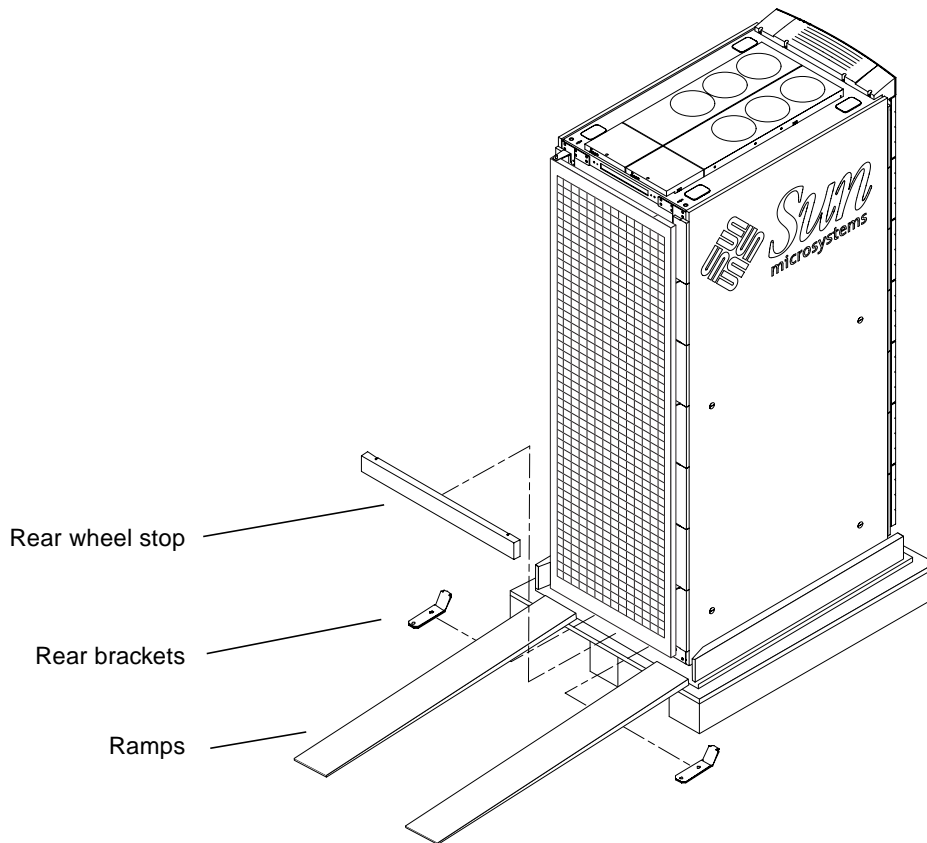

FIGURE 3-4 Removing the Rear Brackets and Rear Wheel Stop and Positioning Ramps
4. Remove the rear wheel stop (FIGURE 3-4).